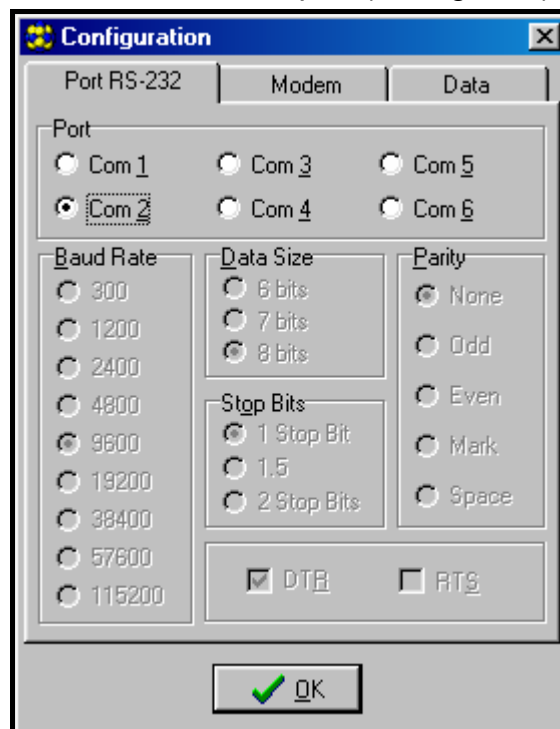

Figure 9.
2. Enter the options of module communication settings by clicking on the  icon (or through the **Communication→Configuration** menu) and select the port through which the computer connects with the module RS-232 port (see figure 9).